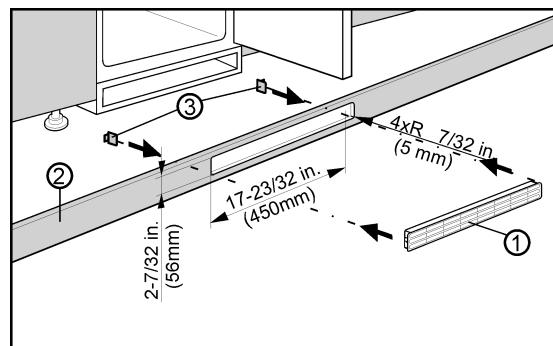

Fig. 3
Ventilation through the cabinet base at the bottom can be achieved by installing the provided ventilation grille *Fig. 3 (3)* or via a ventilation opening of at least 31 in² (200 cm²). When using the provided ventilation grille *Fig. 3 (3)*, please proceed as follows:
- Insert ventilation grille *Fig. 3 (3)* into the cabinet base cut-out *Fig. 3 (1)*.
- From the back side, slide the snap-fits *Fig. 3 (2)* into the grille until the hooks make contact with the cabinet base.